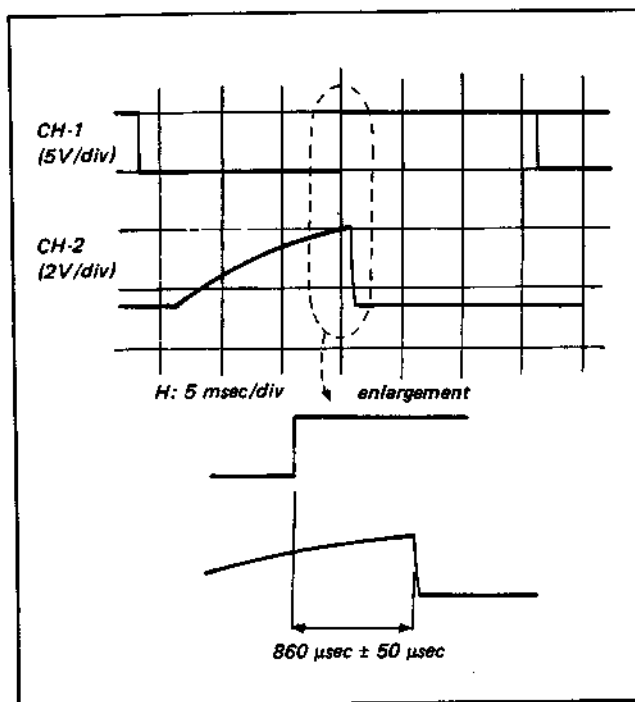

Fig. 5-13. Tracking center adjustment
- 2) Adjust RV8 until the interval shown in the diagram below becomes $860 \mu\text{sec} \pm 50 \mu\text{sec}$. (See Fig. 5-13.)